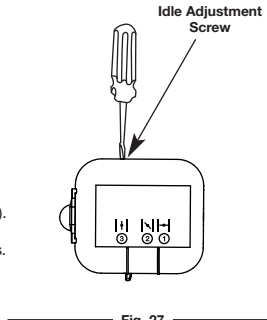

Fig. 27
The idle speed of the engine is adjustable. An idle adjustment screw is between the air filter cover and the engine starter housing (Fig. 27). **NOTE:** Careless adjustments can seriously damage your unit. An authorized service dealer should make carburetor adjustments.
- Release the throttle trigger and let the engine idle. If the engine stops, insert a small phillips in between the Air Filter Cover and the Engine Cover (Fig. 27). Turn the idle speed screw in, clockwise, 1/8 of a turn at a time (as needed) until the engine idles smoothly.